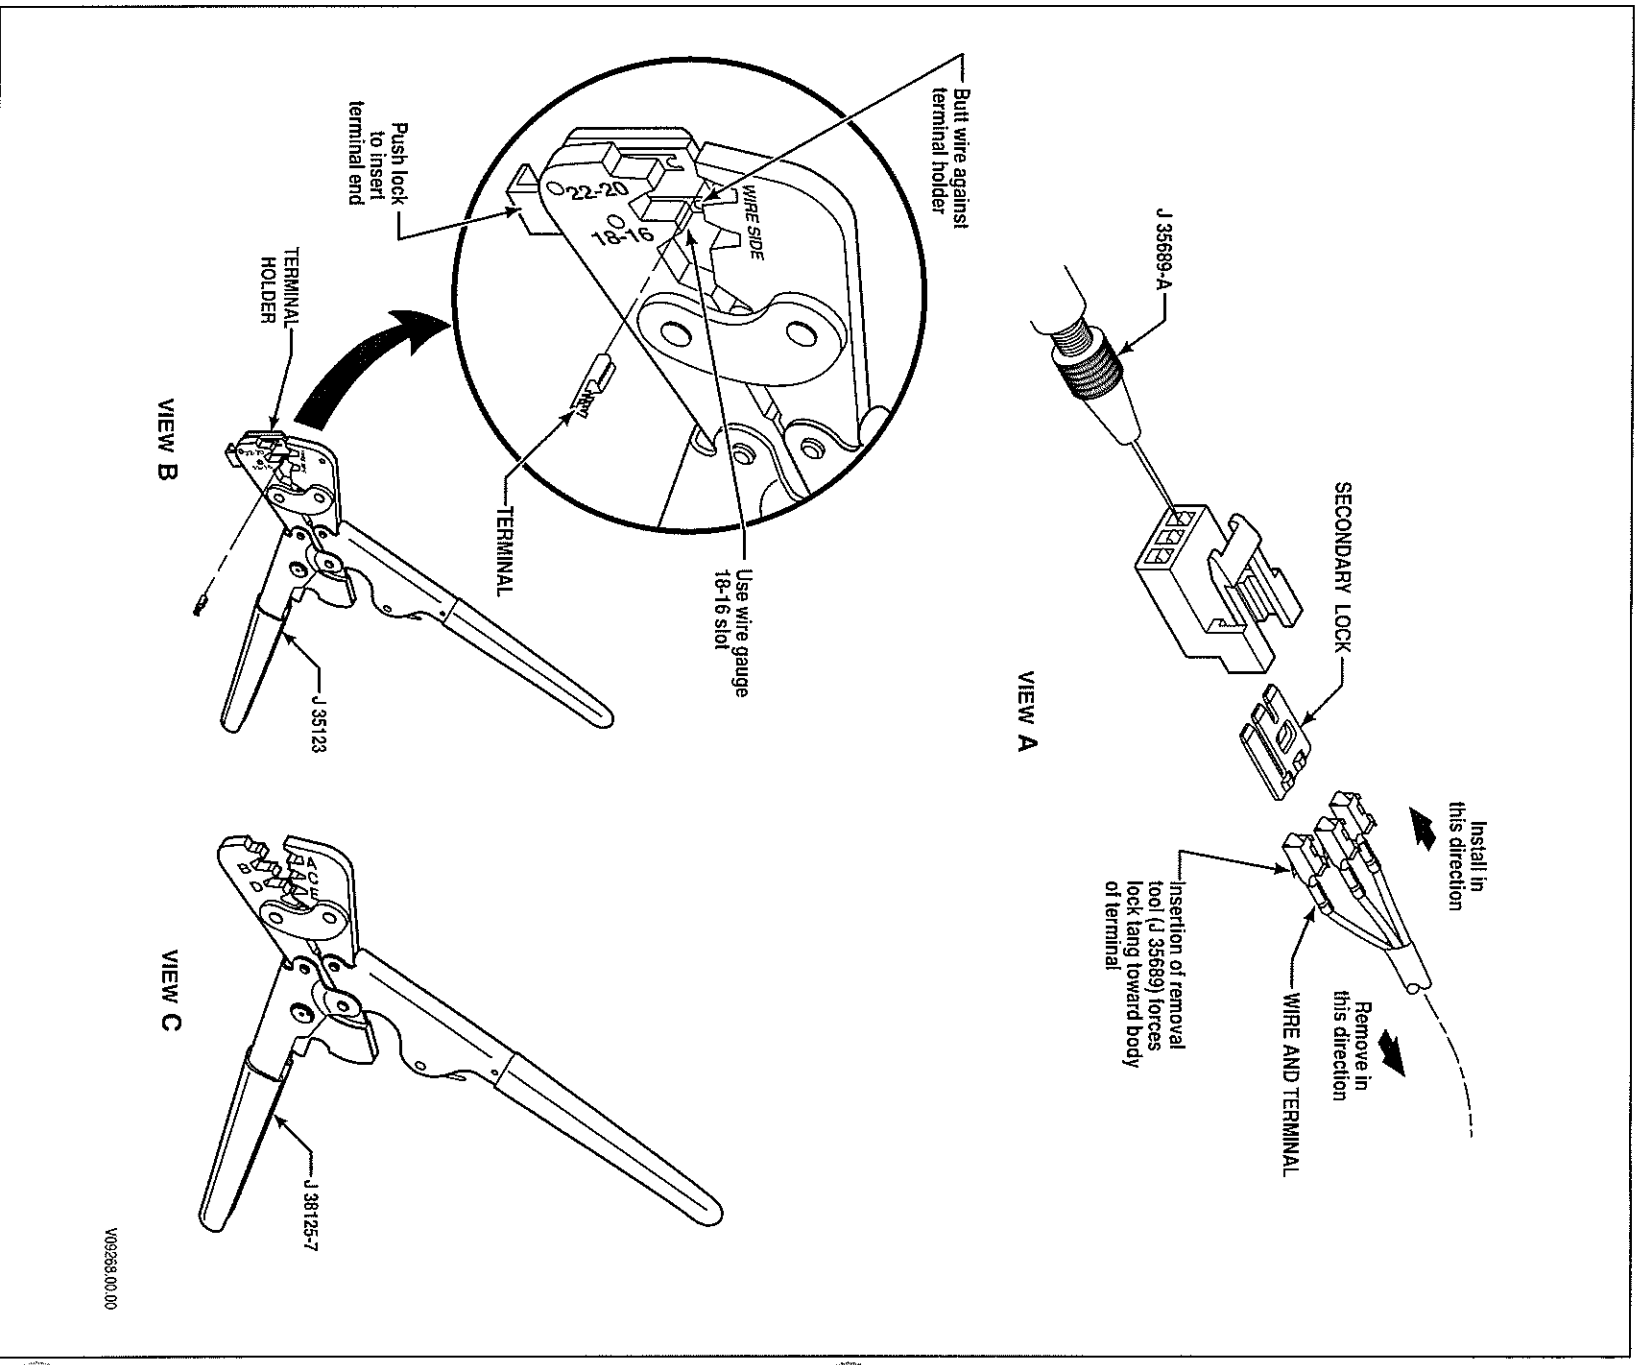

Figure E-7. Delphi-Packard Metri-Pack 150 Series Connectors Push-To-Seat (Oil Level Sensor)
2. Insert needle end of terminal remover J 35689-A into the small notch between the connector and the terminal to be removed (Figure E-7, View A). Push the lock tang toward the terminal.
2. Place core crimp portion of terminal on bed of anvil “E” and squeeze crimper enough to keep terminal from dropping (Figure E-7, View C).
1. Insert remover tool in front side of connector to release locktab and pull terminal out rear of connector. Pull the terminal and wire out the rear of the connector to complete Steps (3) through (7).
2. Push open the terminal holder on the crimper tool J 35123 and insert a terminal into the opening marked 18-16 (Figure E-7, View B) so that the crimp ends point up. Release the terminal holder.